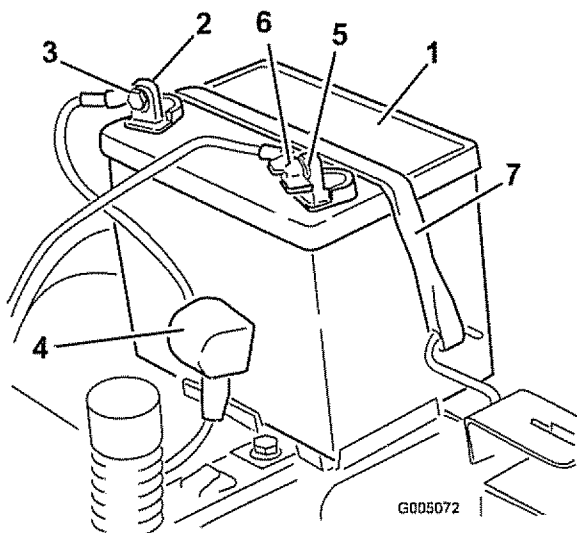

Figure 34
4. Disconnect the negative (black) ground cable from the battery post (Figure 34). Retain all fasteners.
5. Slide the rubber cover up the positive (red) cable. Disconnect the positive (red) cable from the battery post (Figure 34). Retain all fasteners.
6. Remove the battery hold-down (Figure 34) and lift the battery from the battery tray.
1. Position the battery in the tray with the terminal posts toward the operating position (Figure 34).
5. Secure the battery with the hold-down (Figure 34).